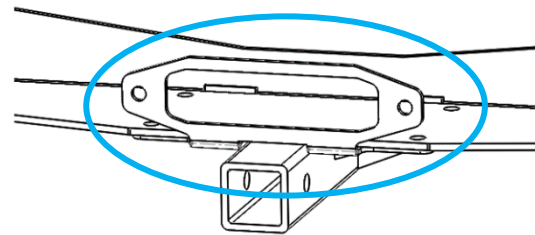

Figure 21: Bolt on Fairlead Plate
29. Install the bolt-on fairlead plate by sliding it over the front receiver and installing **underneath** the winch mounting surface (Figure 21).